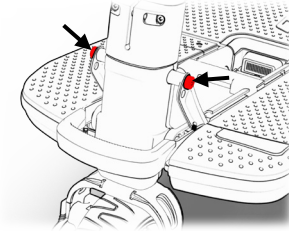

Figure 22 Steering Rod angle adjustment screws
1. ATTO must be in the opened position in order to adjust the tiller angle. Once opened, locate and release the two Allen (hex) screws shown in Figure 22 while holding the tiller in upright position (you need to hold the tiller to prevent it from falling while releasing the screws).